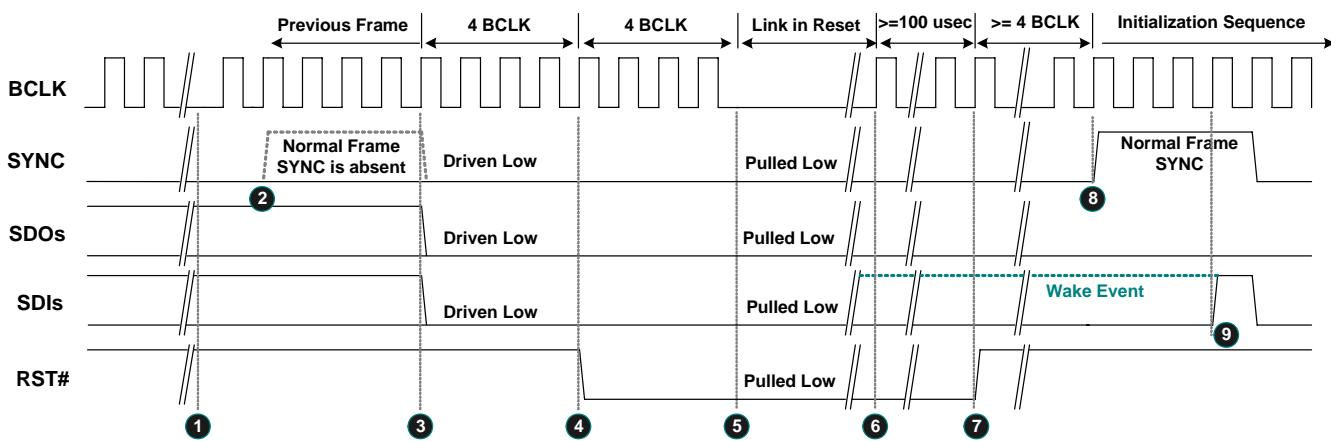

Figure 13. Link Reset Timing
3. Software initiates power management sequences. Figure 13, page 20, shows the ‘Link Reset’ timing including the ‘Enter’ sequence (❶~❽) and ‘Exit’ sequence (❾~❿)